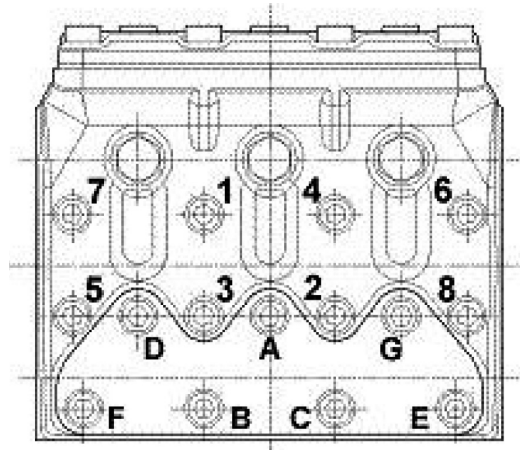

Fig. 33
** The head fixing screws must be tightened with a torque wrench, lubricating the underhead, respecting the order in Fig. 33.
*** The valve cover fixing screws must be tightened with a torque wrench, lubricating the underhead, respecting the order in Fig. 33.
***** The stud bolt M7 exploded view pos. 33, is to be mounted on the spacer exploded view pos. 31 with Loctite 243 code 12006400.